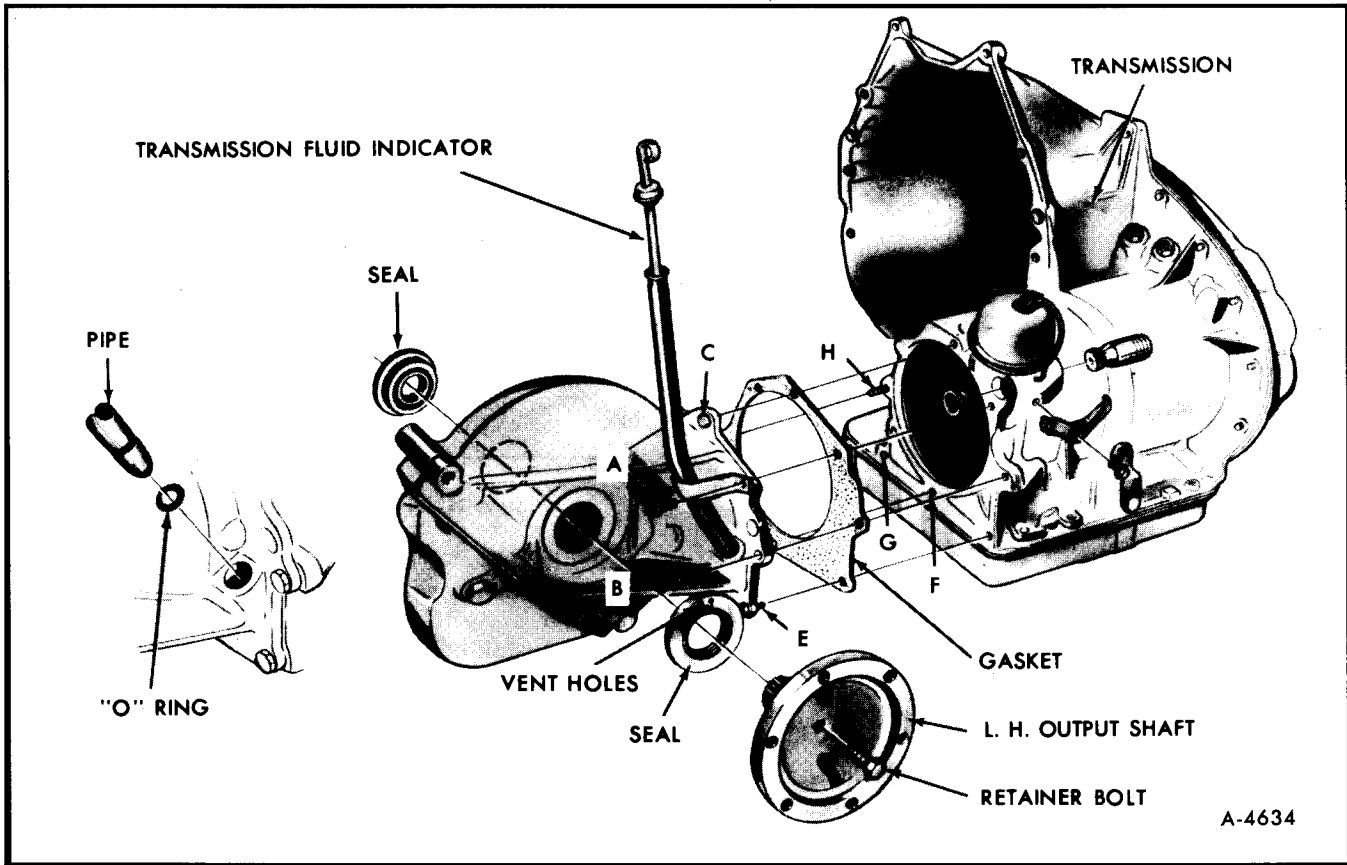

Figure 12—Final Drive Attachment
2. Using a 9/16" socket remove L.H. output shaft retaining bolt and remove L.H. output shaft. (figure 12)
3. Install L.H. output shaft retaining bolt and torque to 45 ft. lbs. (figure 12)
The automatic transmission filler tube is located on the final drive. The filler tube can be removed by removing bolt "A", Figure 12 and then pulling the filler tube out of the housing. To install, position a new "O" ring seal on the filler tube. Coat seal with Special Seal Lubricant No. 1050169 or equivalent and install filler tube into housing. Install bolt "A" and torque to 25 ft. lbs.
3. Remove bolts "A", "B", and "C". (Figure 12)
10. Remove bolts "E", "F" and "G" and nut "H" (figure 12).
14. Using a 9/16" socket remove the left output shaft retainer bolt, then pull output shaft from final drive. (figure 12)
2. Install the left output shaft into the final drive. Retain with bolt. Torque bolt to 45 ft. lbs. (figure 12)
5. Raise transmission lift. Align the bolt stud "H" on the transmission with the mating hole in the final drive. Move final drive until it mates with the transmission. (Figure 12)
6. Install bolts "E", "F" and "G" and nut "H" (figure 12). Install bolts "A", "B" and "C". (figure 12) Torque all final drive to transmission bolts to 30 ft. lbs. Torque nut to an approximate 30 ft. lbs.